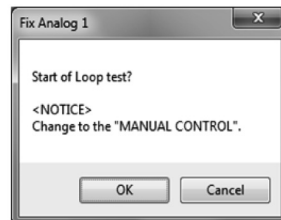

Fig.128
- ③ Click the "Start" button to display a message box (Fig. 128). Click the "OK" button to start "Fix Analog".